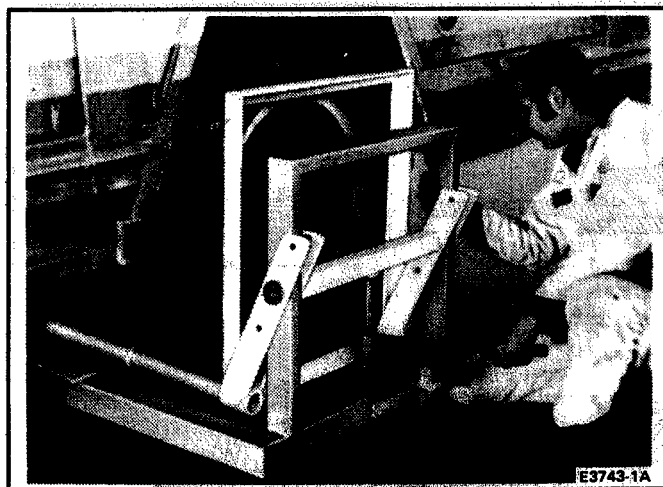

FIG. 3 Heavy Duty Wheel Dolly
6. Using a heavy duty dolly such as the Rotunda model 014-00030 or equivalent as shown in Fig. 3, raise the wheel to the point that all weight is removed from the wheel bearings.